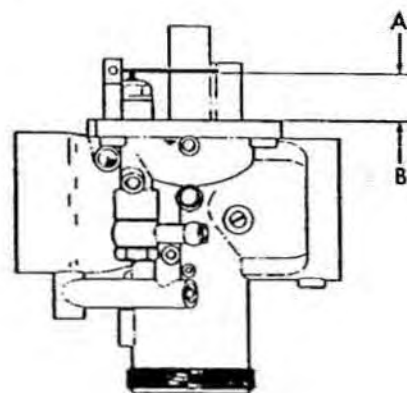

Figure 1
To adjust the float level on a Mikuni carburetor, it is necessary to remove the float bowl. With the carburetor in an inverted position the float arm (A) should be parallel with the body (B) on the carburetor as indicated in Fig. 1. NOTE: To adjust the float arm never bend the arm itself, always bend the tang which contacts the inlet needle.